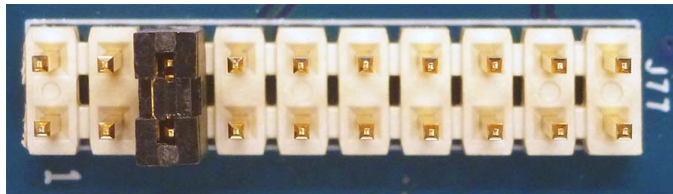

Figure 52.
- (8) PWM\_TRI is already connected to VCC on the ISL78224EVAL2Z.
- (9) Jumper J70 Pin 2 to J70 Pin 3 (VCC) to command boost operation.
- (10) Jumper J88 Pin 2 to J88 Pin 1 (VCC) to command continuous conduction mode (CCM) or J88 Pin 2 to J88 Pin 3 (GND) to command diode emulation mode (DE).
- (11) Jumper J89 Pin 2 to J89 Pin 1 (VCC) to command Latch off Fault protection (LAT) or J89 Pin 2 to J89 Pin 3 (GND) to command hiccup fault protection (HIC).
- (12) Remove jumper J4 to disconnect VIN\_FLY from VIN.
- (13) Connect V6 (TP19) to a disabled external 6V source.
- (14) Connect VIN (TP14) and V12 (TP18) to a disabled external 12V source.
- (15) Enable the BAT12, V6, VIN, and V12 voltage sources.
- (16) Jumper J58 to command enable.
- (17) Enable can be verified by observing the presence of voltages at PVCC, VCC, MCUVDD, and CLK\_OUT.
- (18) Jumper J77 Pin 5 to J77 Pin 6 to command PWM\_EN, see Figure 52. Avoid bounce to this connection.